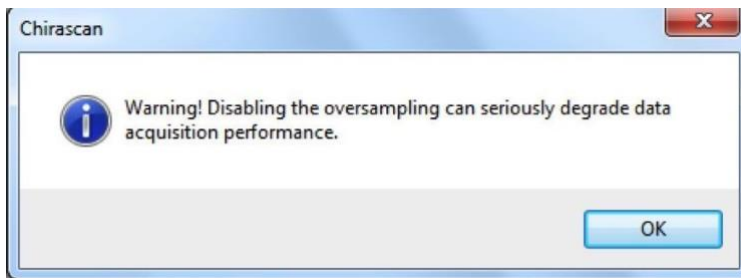

Figure 9. The Disable oversampling warning message.
- Selecting **Disable oversampling** will do precisely what it says and is used for diagnostic purposes only. If it is selected, a warning is given (Figure 9). For all non-diagnostic use, oversampling must be used.